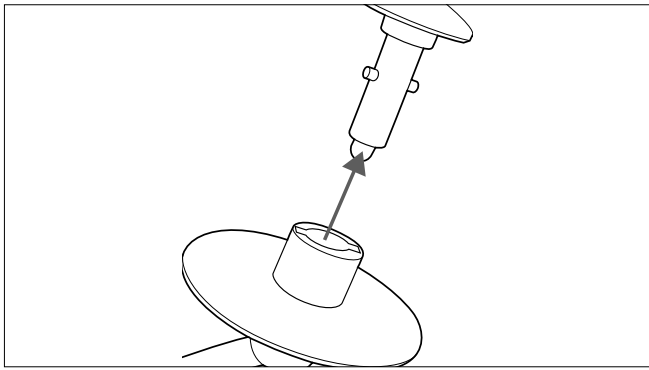

Fig. 9 – Sliding the stirrer onto the holder
- ▶ Insert the stirrer into the holder in the swivel arm from below (see Fig. 9).